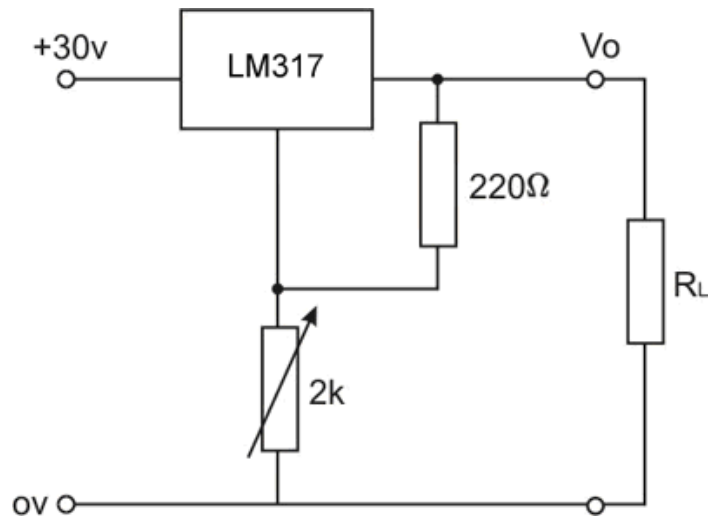

Figure 17.
4. Calculate the maximum and minimum output voltages for the circuit in Figure 17 (Use typical values).